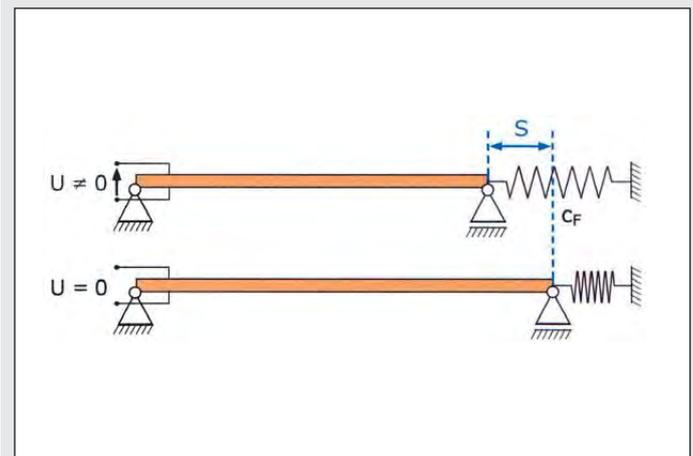
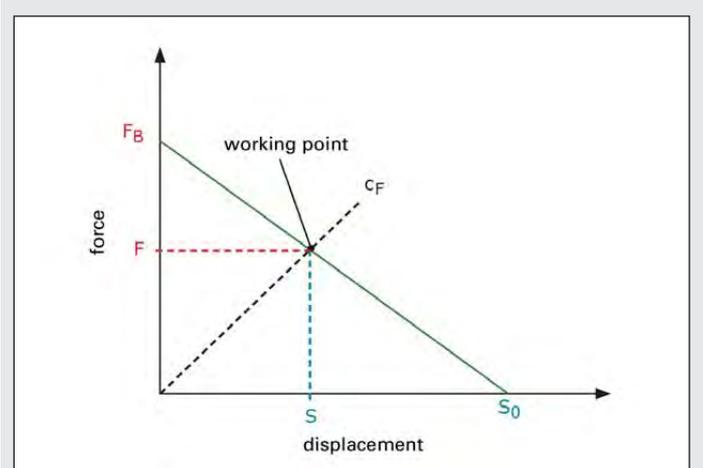

Fig. 6: Application of a spring force to an actuator
Fig. 7: Characteristic curve with spring load line
A graph of applied force versus actuator displacement is called the actuator characteristic curve (Fig. 7). It basically follows the line passing through the points with 0 force and 0 displacement described above. In most cases the actuator acts against an elastic structure,
e.g. when a spring or a metal sheet is deformed (Fig. 6). If the load is represented by a spring (characteristic curve of the spring) with stiffness of c_F , the resulting operating point is the intersection of the load line with the actuator characteristic curve (Fig. 7). The most effective operation occurs when the operating point is in the middle of the characteristic curve.